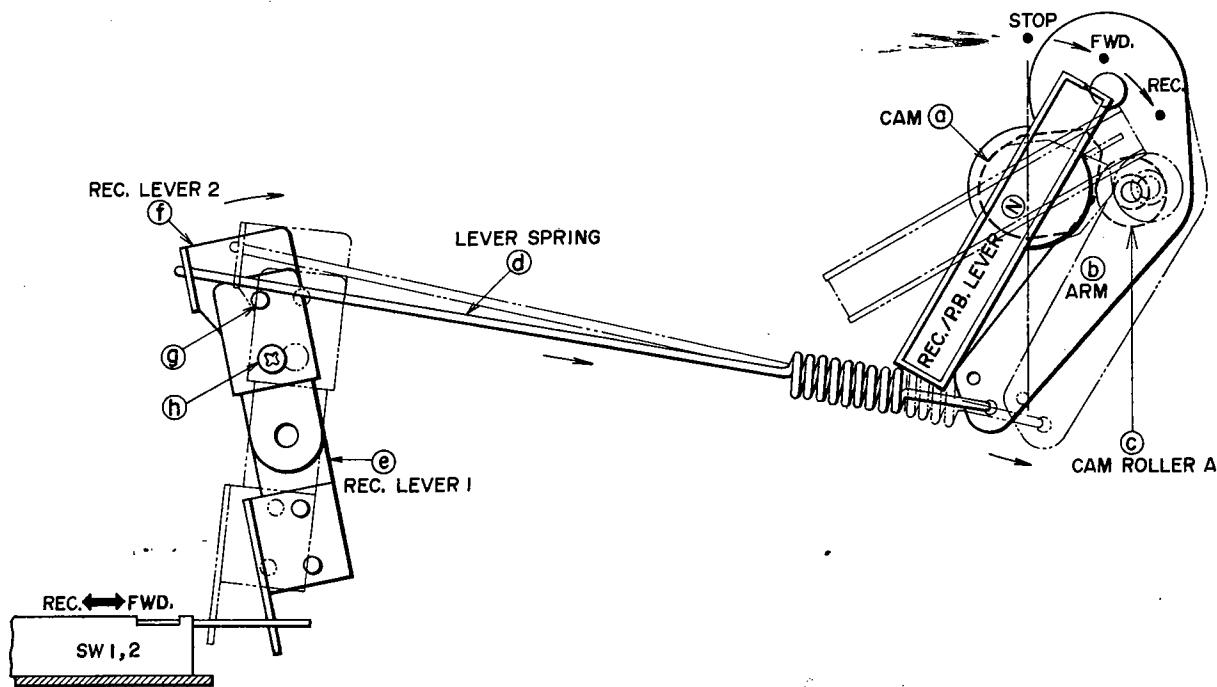

Fig. 12
- (1) Set REC/PLAY Lever from FWD to REC position.
- (2) Cam (a) pushes Cam Roller (c) and Arm (b) as illustrated by the dotted lines in Fig. 12.
- (3) Arm (b) pulls Lever Spring shaft (d) as indicated by the arrow mark.
- (4) Then, Recording Levers 1 and 2 (e) and (f) set Slide Switches SW-1 and SW-2 to recording condition.